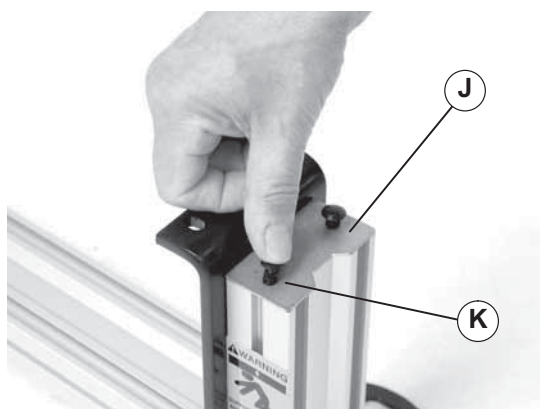

Figure 10
13. Attach end cap (Figure 10, item J) to leg by inserting push screws (K) through holes in end caps and into leg assembly holes.